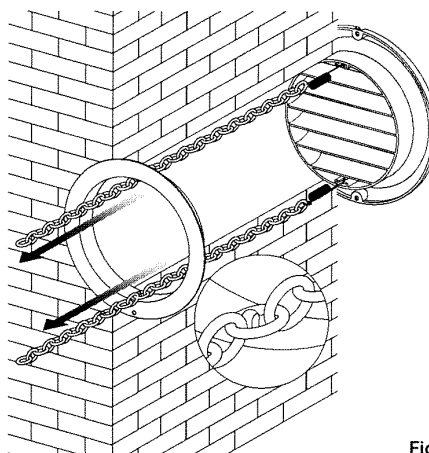

Fig. 11
- Pull the chain, tensioning the spring, and fasten the ring of the chain onto the pin of the inner washer (fig. 11).